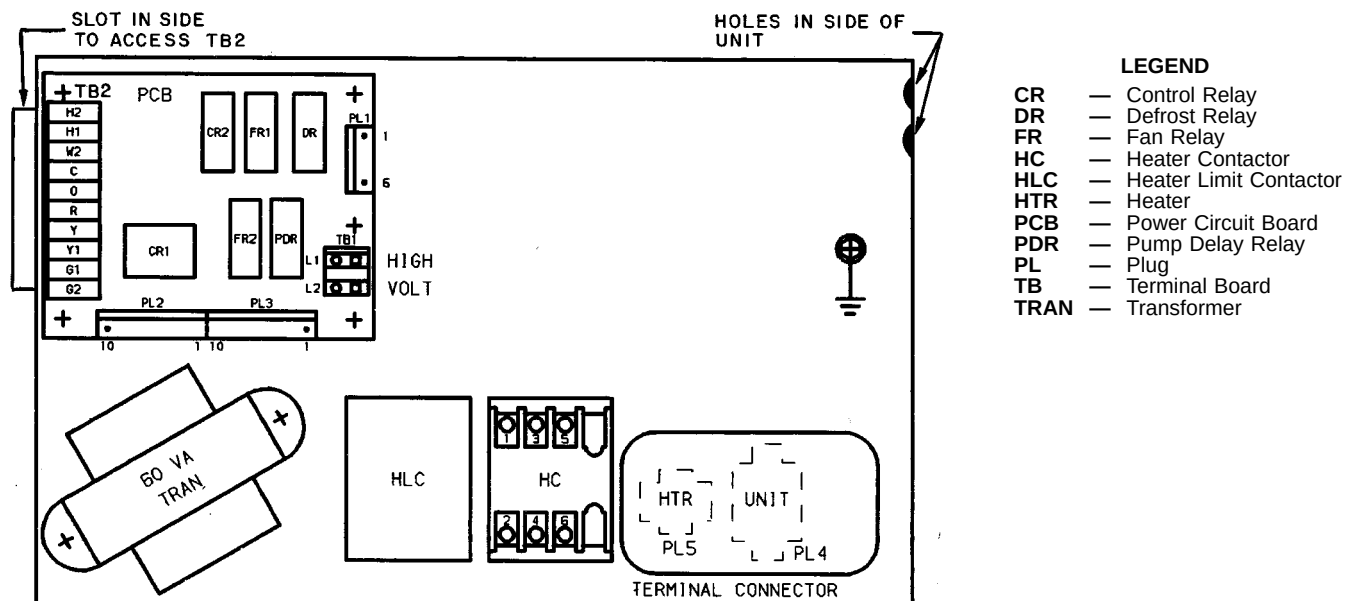

Fig. 13 — Electrical Control Panel
1. With the 2 screws provided, attach the electrical control panel (Fig. 13) to the fan coil unit as shown in Fig. 2 and 3.
- a. Run wiring through top hole on right side of control panel (Fig. 13).
- b. Place wire through bottom hole on the right hand side of electric control panel (Fig. 13). Using Fig. 14 and the appropriate wiring diagram (see Troubleshooting section on page 14), connect disconnect wire to heater contactor.
- Using Fig. 13 and the appropriate wiring diagram (see Troubleshooting section on page 14), connect unit plug (PL4) from control box to mating fan coil plug.